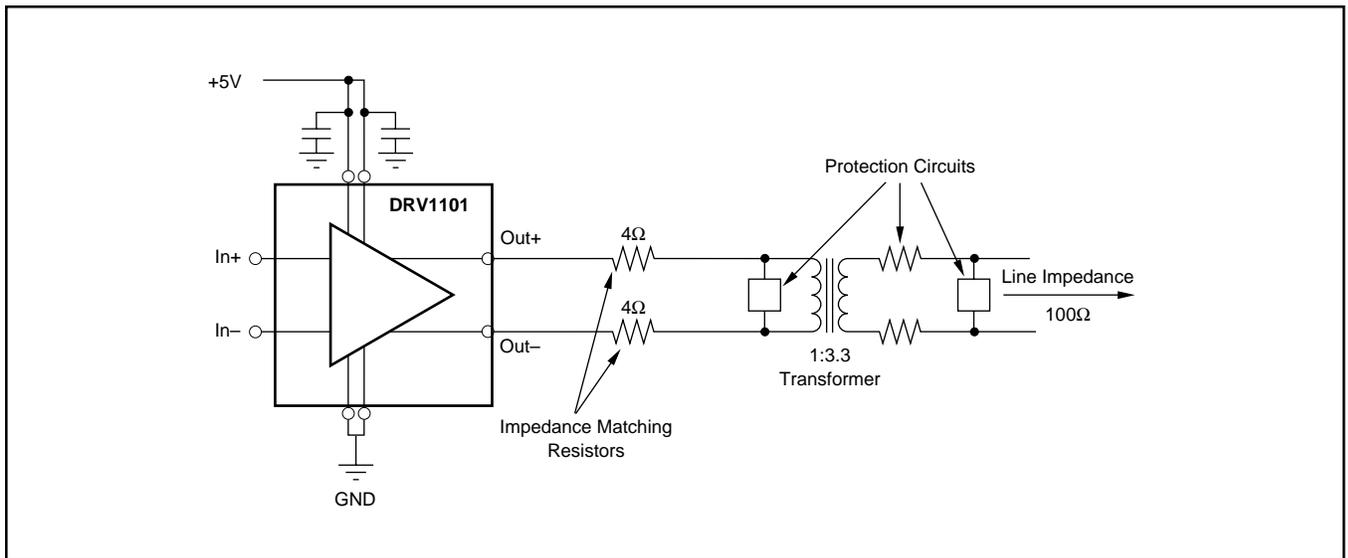

FIGURE 3. Typical Digital Subscriber Line Application.
The DRV1101 is designed for the high power, low distortion, requirements of a twisted pair driver in digital communications applications. These include ADSL (Asymmetrical Digital Subscriber Lines), and RADSL (Rate adaptive ADSL). Figure 3 shows a typical transformer coupled xDSL line driver configuration.
The DRV1101 is recommended as the upstream driver (CPE equipment) for ADSL G.Lite systems. These system require an rms line power of 10dBm with a voltage crest factor of 5.3 (crest factor is the ratio of peak to rms voltage). A voltage crest factor of 5.3 is equivalent to a power crest factor of about 15dB. Therefore, the peak power required at the line for G.Lite is 25dBm. Using the basic circuit shown in Figure 3, DRV1101 will provide this power to the line with very low distortion.
3. The DRV1101 peak output voltage is calculated by the formula: $V_{PEAK} = (P_{PEAK} \cdot R_L)^{1/2}$ where R_L is the load impedance that the DRV1101 must drive. For ADSL Lite, using the circuit shown in Figure 3, $V_{PEAK} = (P_{PEAK} \cdot R_L)^{1/2} = (.631W \times 17\Omega)^{1/2} = 3.3V$. The peak-to-peak voltage out of the DRV1101 is $2 \times 3.3V = 6.6V$.
4. The transformer turns ratio can be changed to keep the required output voltage and current within the range of the DRV1101. The line impedance (R_{LINE}) is 100Ω for ADSL. The impedance that is reflected to the DRV1101 side of the transformer is $R_{LINE}/(\text{turns ratio})^2$. For best power transfer, the total of the impedance matching resistors should equal the reflected impedance. Thus, for the circuit shown in Figure 3, the reflected impedance is $100\Omega/(3.4)^2 = 8.6\Omega$. With two impedance matching resistors of 4Ω each and about 0.5Ω transformer resistance, the total load impedance is about $(8.6\Omega + 4\Omega + 4\Omega + 0.5\Omega) = 17\Omega$.
Figure 3 also shows overvoltage and short circuit protection elements that are commonly included in DSL applications. Overvoltage suppressors include diodes or MOV's. The outputs of the DRV1101 can be momentarily shorted to ground or to the supply without damage. The outputs are not, however, designed for a continuous short to ground or the supply.